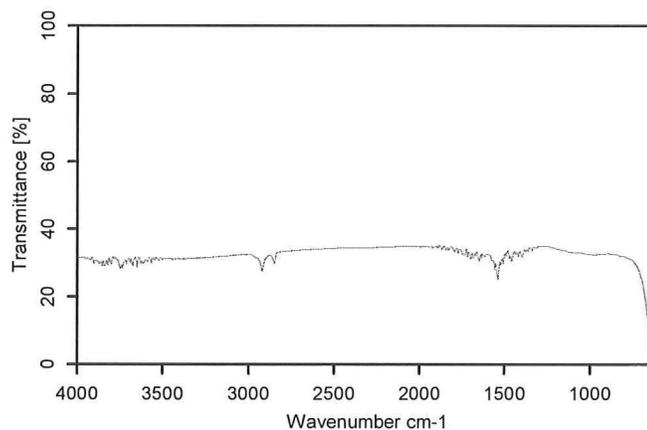

Figure 7 • Horizon™ Throughput
- The Horizon™ throughput at that wavenumber should be at least 20% and the spectrum should resemble the Horizon™ throughput spectrum shown in Figure 7.